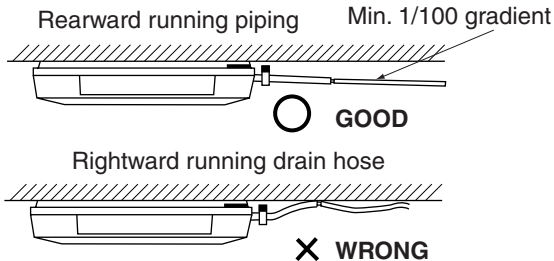

Fig. 27
- Keep the drain piping short and sloping downwards at a gradient of at least 1/100 to prevent air pockets from forming. **(Refer to Fig. 27)**